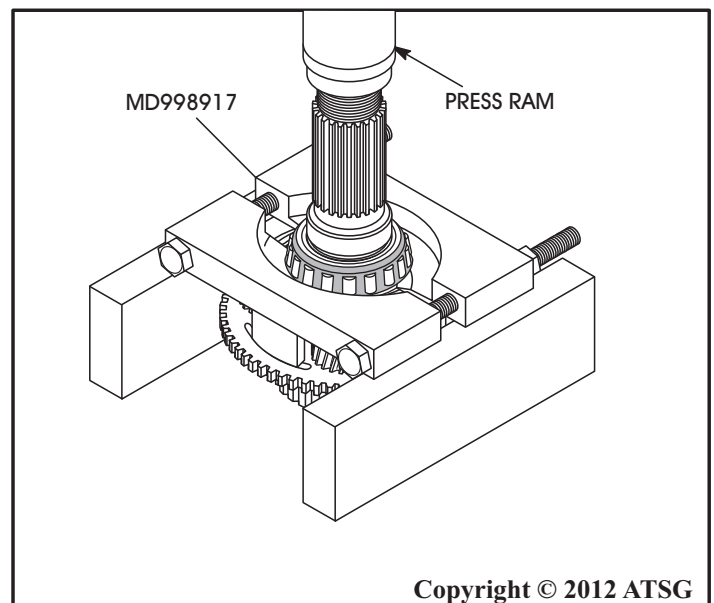

Figure 173
9. Now install the universal split puller under the remaining tapered roller bearing, as shown in Figure 173, and press it off of the shaft.